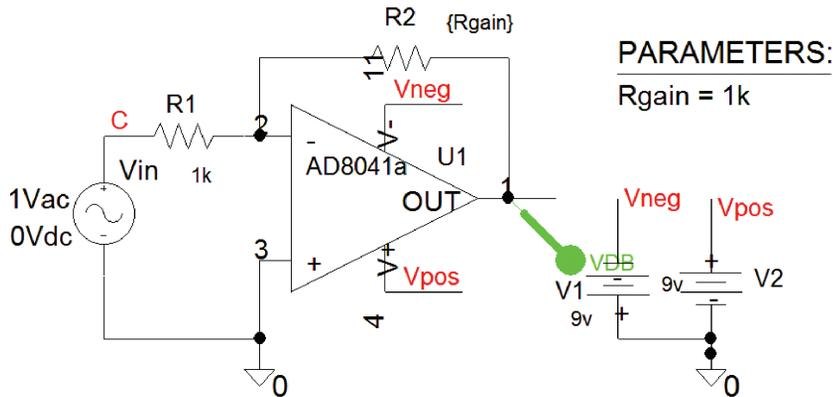

FIGURE 8.41: Inverting op amp
- (8) The schematic in Fig. 8.41 uses the very good specification AD8041 opamp. Select the resistor R_2 and enter the value {**Rgain**}. Place and select a **Param** part from the **Special** library. Highlight **NAME1**, and enter Rgain in the **Value** box. Similarly, select the **VALUE1 attribute**, and enter 1k in the **Value** box. From the **Analysis Setup** menu, select **Parametric**, and in that sub menu, define **Name** = Rgain, **Start Value** = 1k, **End Value** = 100k, and **Increment** = 20k.
The frequency response in Fig. 8.41 shows how the AD8041 is a much superior op amplifier with a much larger passband frequency range compared to the very poor ua741 op amp frequency response.